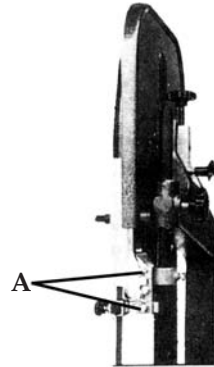

FIGURE 5
3. To bolt the blade guard to the side of the upper blade guide assembly, loosen the two bolts on the side (A-Fig.5), slide the guard under the washers and retighten.